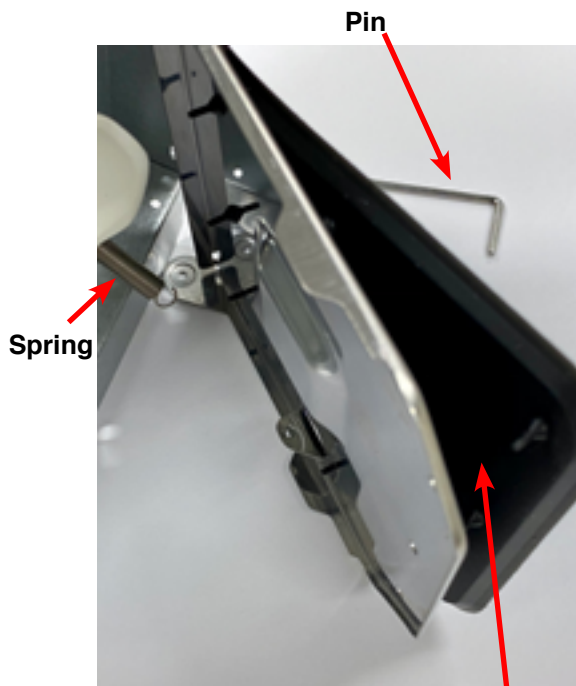

Fig. D-3
3. Release the door pin and spring. Fig. D-3